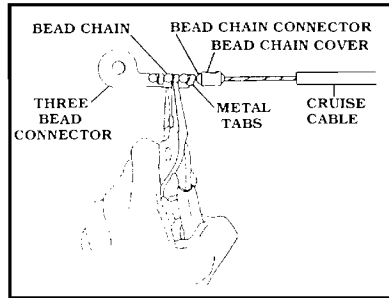

Figure 17
2. Attach the BEAD CHAIN to the THREE BEAD CONNECTOR. Secure beads by folding the metal tabs. **Figure 17**